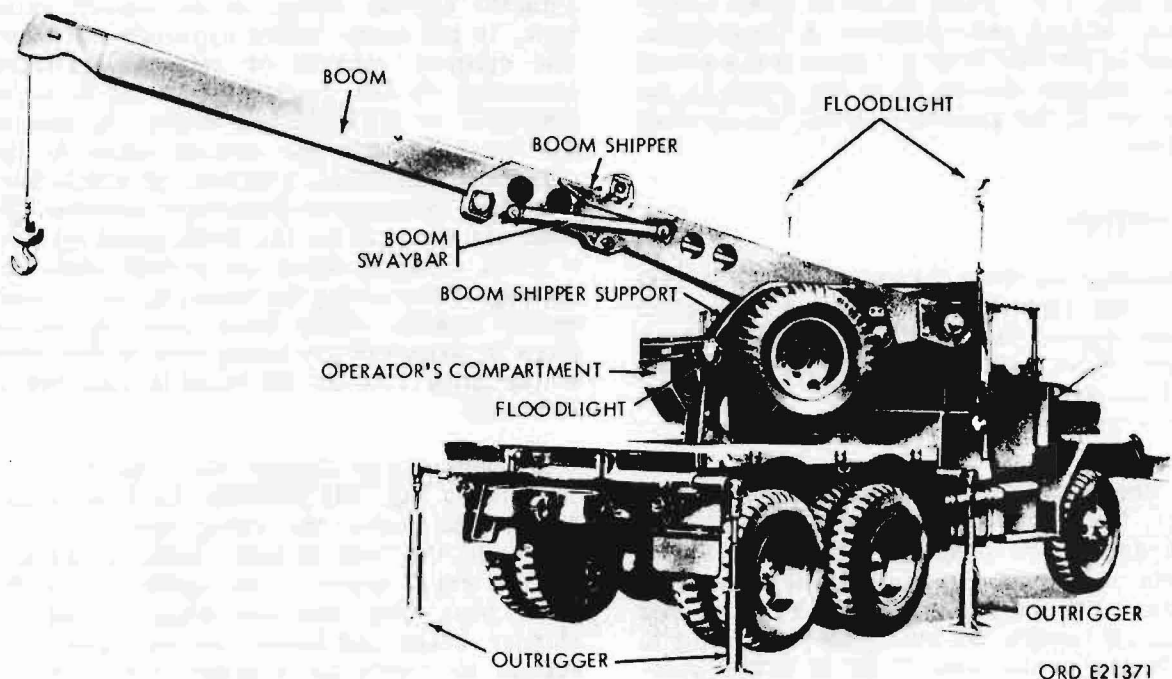

Figure 123. Crane truck M108 - boom extended
The crane trucks (fig. 123) are equipped with a hydraulically operated revolving crane. When removable stops are installed, the crane revolves through an arc of 270 degrees to protect the cab of the vehicle. With stops removed, crane is capable of full circular revolution. The crane boom extends and retracts about eight feet through the action of the boom-crowd hydraulic cylinder mounted within the boom, and raises and lowers through an arc of 45 degrees by action of the boom-lift hydraulic cylinder. The cable hook is raised or lowered by reeling and unreeling of the drum cable from the cable-hoist drum. Control
permits pressurized transfer of oil from the pump, mounted on the oil reservoir, to the control valve bank in the operator's compartment (fig. 123). From there it flows to hydraulic motors and cylinders. A relief valve, located in the line from the pump to the swivel valve, returns the oil from the pump to the reservoir if the pressure in the line exceeds 1200 psi.
f. **Floodlight Controls.** The floodlight control switch (fig. 67) mounted on the instrument panel to the right and below the ignition switch, controls power to the crane and cab floodlights (fig. 123). Switch must be in the ON position before the floodlights can be operated. A separate floodlight toggle switch is provided on each floodlight for the local control. A handle is provided on each light for directing the light beam in the desired direction. Each cab floodlight can be lowered to a traveling position by removing the locking pin from the swivel bracket and lowering the light assembly to a horizontal position, where a floodlight holddown is provided to secure light in place.
a. **Outriggers.** The crane trucks are equipped with four outriggers (fig. 123) for use during the handling of heavy side lifts which might normally cause tipping of the vehicle. Two outriggers are on each side of the vehicle. Outriggers collapse when not in use, within limits of the width of the crane body platform. Outriggers are of the screwjack type with a pin through the vertical tube as initial adjustment and screw thread for final extension. The use of outriggers prevents most of the twisting stresses placed on chassis by side loads. Each outrigger (fig. 125) is set by removing the retaining pin from the outrigger frame strap located on the extreme end of the outrigger tube near the base. Outrigger is pulled out by the base until the horizontal rod extends 14 inches beyond the tube end. The base is then lowered to the ground. Lining up the holes in the horizontal tube and rod, one retaining pin is inserted through the holes to maintain the outrigger horizontally.
c. **Boom Sway Bars (Fig. 123).** Boom sway bars are provided to minimize the boom sway during travel with or without a towed load. The boom, with bars in the supporting position is capable of supporting 3500 pounds' suspended weight of the towed load on prepared